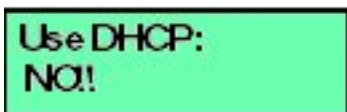

Figure 3.16. LCD Panel (DHCP selection)
4. Press **ENTER** and the following message displays (Figure 3-16) to allow the selection of DHCP.